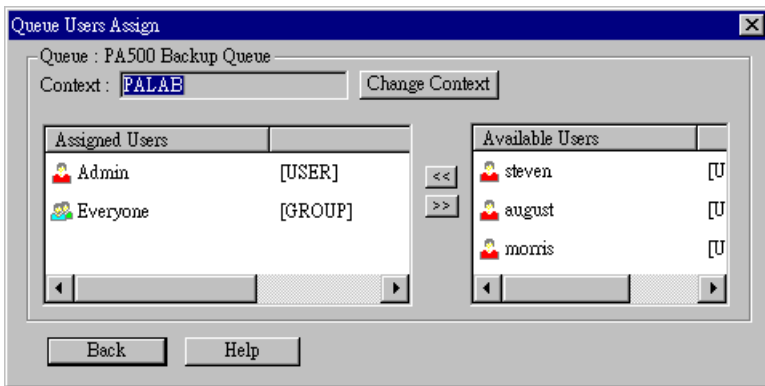

Figure 37: Assign Users to Queue (NDS PS mode)
- **User** – Assign Users to the NetWare Print Server object. (Optional) These users will then be able to view the status of the NetWare Print Server object. This is optional; printing requires only that users be assigned to queues, not to the NetWare Print Server. The screen for assigning users to a NetWare Print Server is identical to *Figure 37: Assign Users to Queue (NDS PS mode)*.